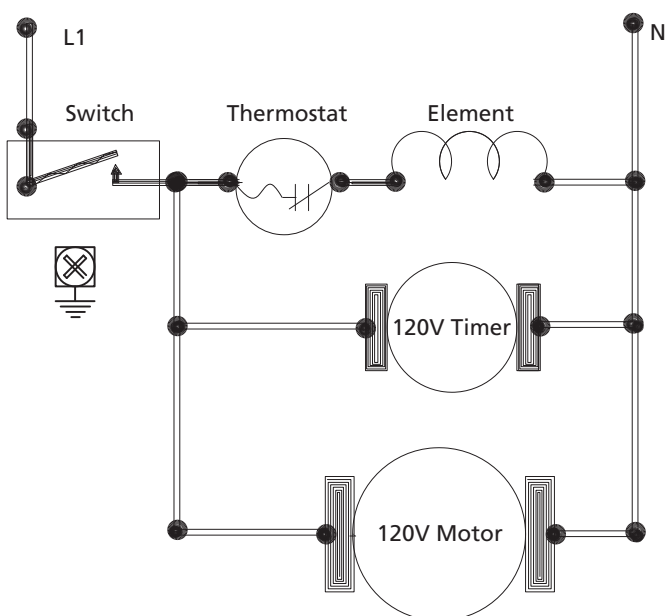

Figure 2 – Model 1GVL6
4. Reconnect wires to terminal block and switch. Check Wiring Diagrams, Figures 2 and 3.